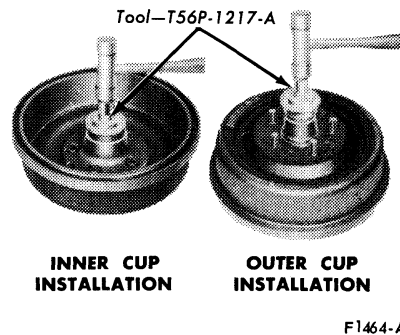

FIG. 1 Installing Bearing Cups
Each front wheel and tire assembly is bolted to its respective front hub and brake drum or rotor assembly. Two opposed tapered roller bearings are installed in each hub (Figs. 1 and 2, Part 11-02, and Figs. 3 and 4 of this Part). A grease retainer is installed at the inner end of the hub to prevent lubricant from leaking into the drum or onto the rotor. The entire assembly is retained to its spindle by the locknut and/or adjusting nut and cotter pin, or an adjusting nut and lock nut combination (Figs. 3 and 4).
3. While rotating the wheel, torque the adjusting nut (Fig. 1, Part 11-02) to 17-25 ft-lb to seat the bearings.